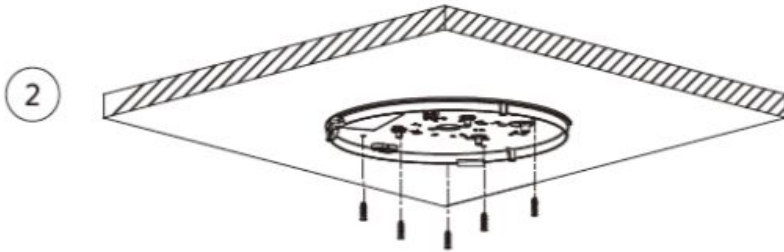

Figure 2-2
Step 2 Install the mounting screws to the mounting plate. See Figure 2-2.